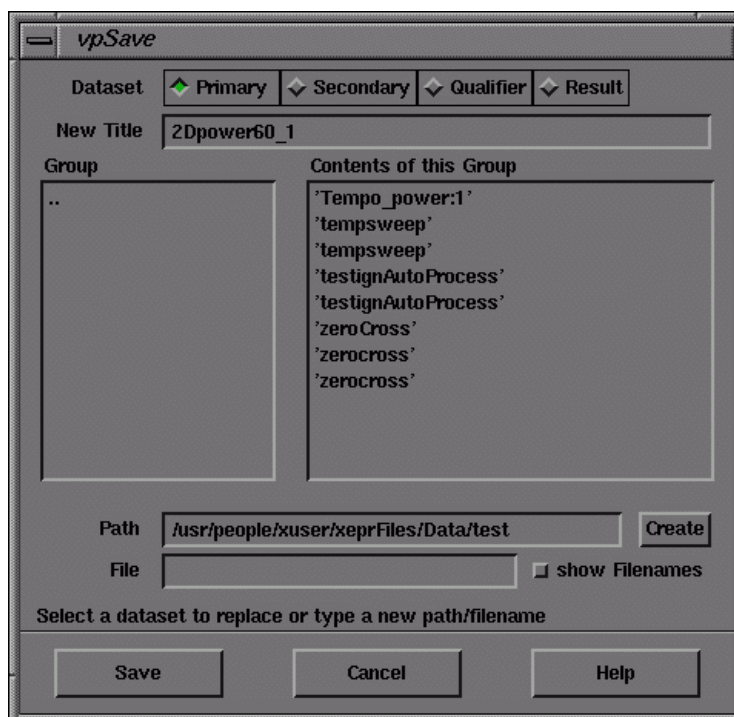

Figure 3-25 The Save dialog box.
2. **Save your spectrum.** Click the menu button in the viewport. Click **Save** in the drop-down menu. (See Figure 3-25.) Enter a descriptive title for the dataset in the **Title** box. The **Save** dialog box lets you enter a file-name and destination directory. (See Figure 3-25.) To select the desired directory, click the appropriate paths under **Group**. Clicking on `..` brings you to the parent directory. Enter the file name in the **File** box. Clicking **OK** saves the presently active spectrum on the hard disk. Note that the spectrum is also stored in memory when saved.